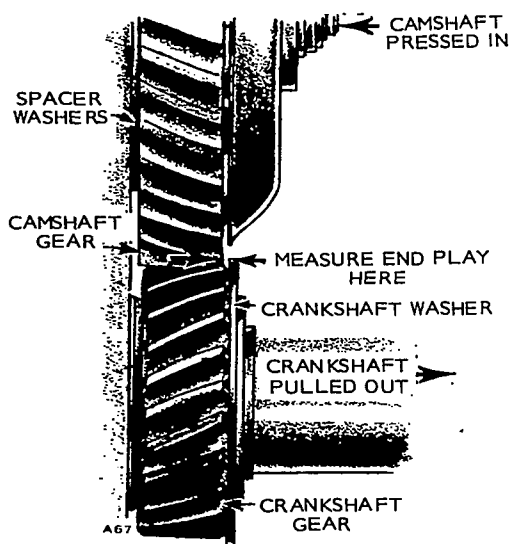

FIGURE 59. CAMSHAFT ENDPLAY
3. Slide thrust washer onto shaft. Measure camshaft end play; it should be 0.007 inch to 0.039 inch (0.178 to 0.991 mm). See Figure 59.